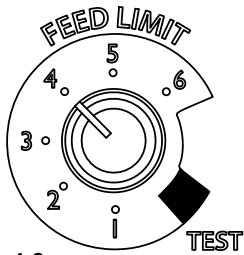
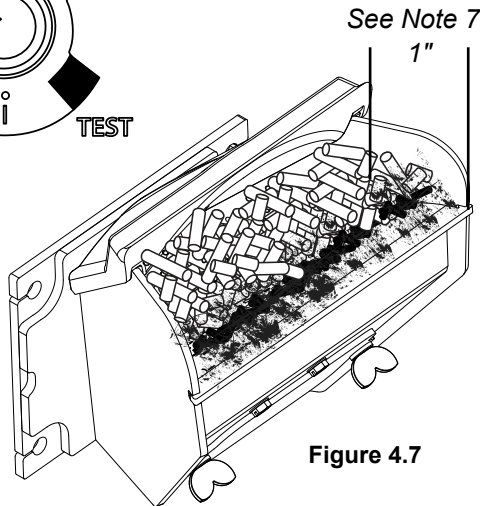

Figure 4.6
Figure 4.7
4. Adjust Feed Limit. If this is your first fire or you are trying different pellets, set the feed limit to #4, Figure 4.6 This is a conservative number and will probably need to be increased. After you know a Feed Limit setting that works well, use that setting. Remember, if your feed rate is too high you may waste fuel.
7. Setting the feed limit # for maximum burn: With the unit burning in "AUTO", turn to "Constant Burn" and put the fan on "H". Set the Temperature Dial to #7. Allow the unit to burn for about 30 minutes and check ash on front of burn pot. Figure 4.7. If the ash line is larger than 1", turn the feed limit from #4 to #5. Allow another 30 minutes of burn time and check again. If, at #6 setting, a 1" or less ash bed is not obtainable, it is not a problem. The 1" ash bed is only at maximum burn rate and during normal operation, the ash bed will be larger.
High output is determined by the Feed Limit setting. This setting, generally on #4, can be increased if higher burn rates are necessary (Figure 4.6). The unit's maximum burn rate should not create less than 1" of ash on the burn pot front edge (Figure 4.7). Overfeeding is not a safety concern, but fuel may be wasted if unburned pellets fall into the ash pan.
This allows for automatic ignition upon start-up only. The unit can then be set at any desired setting. The heat output and fuel consumption will remain constant regardless of room temperature. The unit's maximum feed rate should not create less than 1" of ash on the burn pot front edge. Figure 4.7.